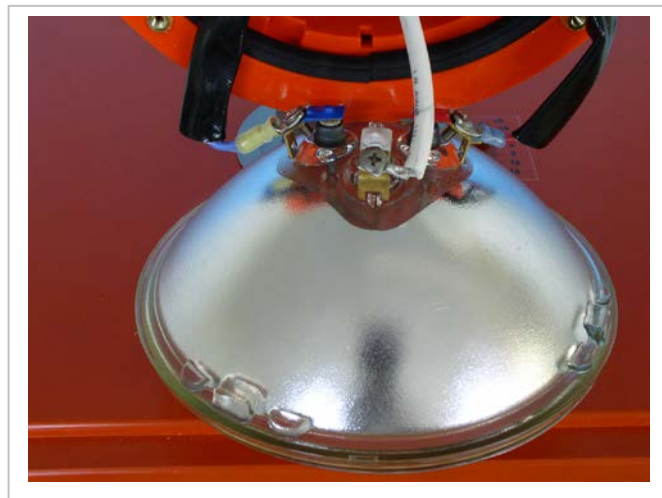

Figure 13b
- Loosen, but do not remove three Phillips head screws securing electrical wires at the back of the lamp (shown in Figure 13b).
Replacement is the reverse of removal, but with attention to wire routing and flash lamp orientation. **Be sure that the wires approach the lamp terminals exactly as shown in Figure 13b!**
It will be necessary to remove the flash lamp from the housing in order to disconnect the white wire (see Figure 13b). The red and blue wires do not have to be disconnected. It is also necessary to remove the rear plate to access the trigger transformer.
- Remove the bezel holding the flash lamp (Figure 13a), and tip the flash lamp out far enough to access the electrode screws on the back of the lamp (Figure 13b).
- At the front of the housing, attach the white wire to the proper lamp terminal taking care to bring the wire to the lamp terminal as shown in Figure 13b.